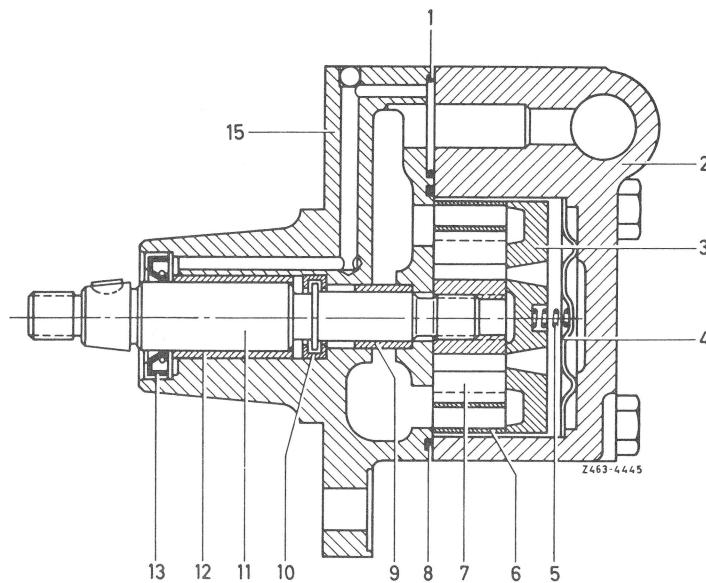

Fig. 8
12 Press drive shaft (11) out of housing cover (15), watching out for the two shell halves (10) (Fig. 8).